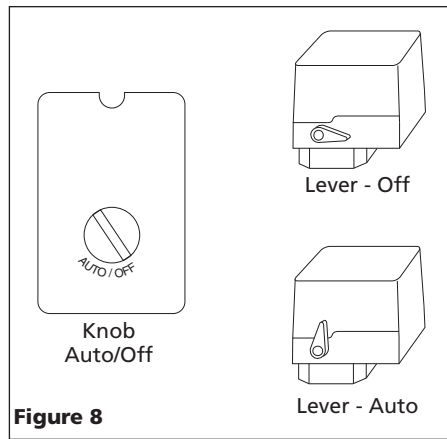

Figure 8
4. Turn pressure switch lever or knob to AUTO position and run unit for 30 minutes to break in the pump parts (See Figure 8).